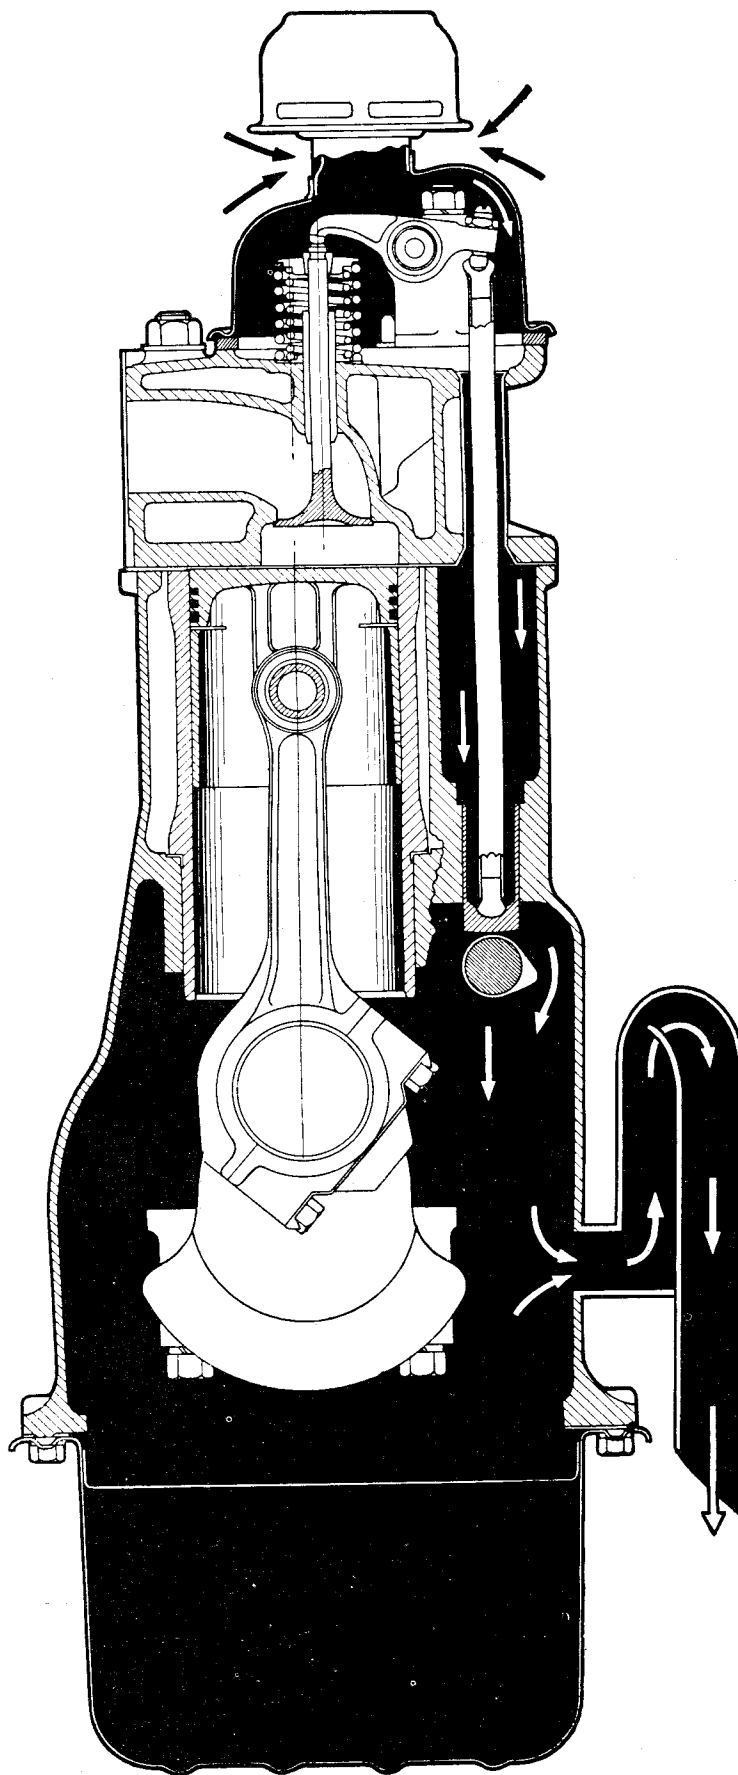

Fig. 11 A diagrammatic view of Crankcase Ventilation.
- (p) **Crankcase Ventilation** (Fig. 11) is effected by permitting air to be drawn out of the engine. To enable this ejection a large bore pipe in the form of an inverted "U" is fitted into the left-hand side of the cylinder block by means of an adapter welded to its end. The exposed end is cut away at an angle to provide a wider opening facing away from the slipstream. The passage of air (the slipstream) created by the cooling fan or the movement of the car causes a depression at the angle opening of the inverted "U" pipe and air is drawn out of the cylinder block.